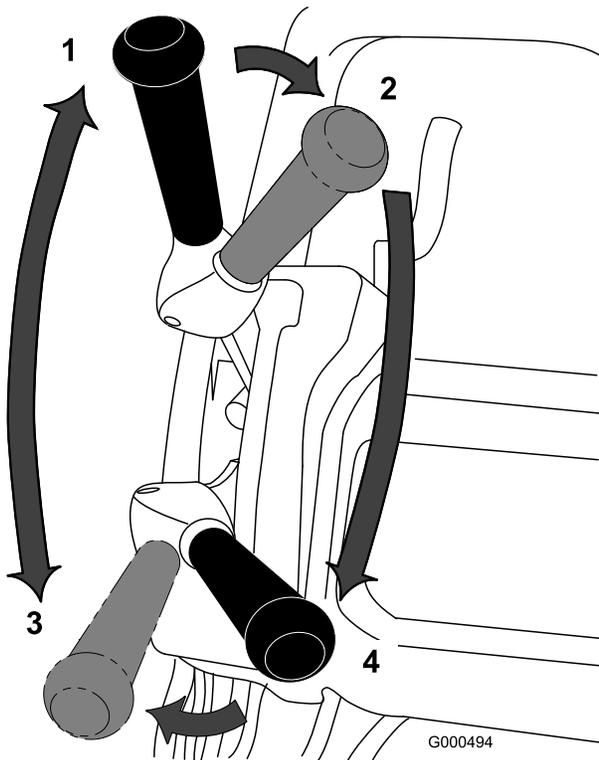

Figure 24
1. Start the engine, set the throttle at reduced speed, push down on handle to raise cutting unit, move traction lever to Engaged position and transport mower onto collar of green (Figure 24).
2. Move traction lever to Disengaged position and Engage reel drive lever (Figure 24).
3. Move traction lever to Engaged position, increase throttle speed until the mower is traveling at the desired ground speed, drive the mower out onto the green area, lower the front of the mower down and commence operation (Figure 24).